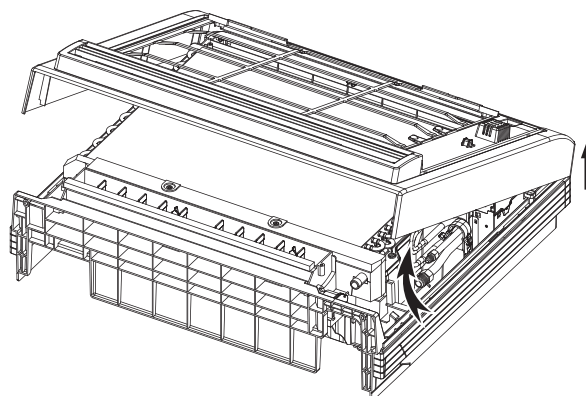

Fig.7-3
- Opening bottom of face plate for an angle that is 30 degrees, then the top of face plate will be take up. (Refer to Fig.7-3)